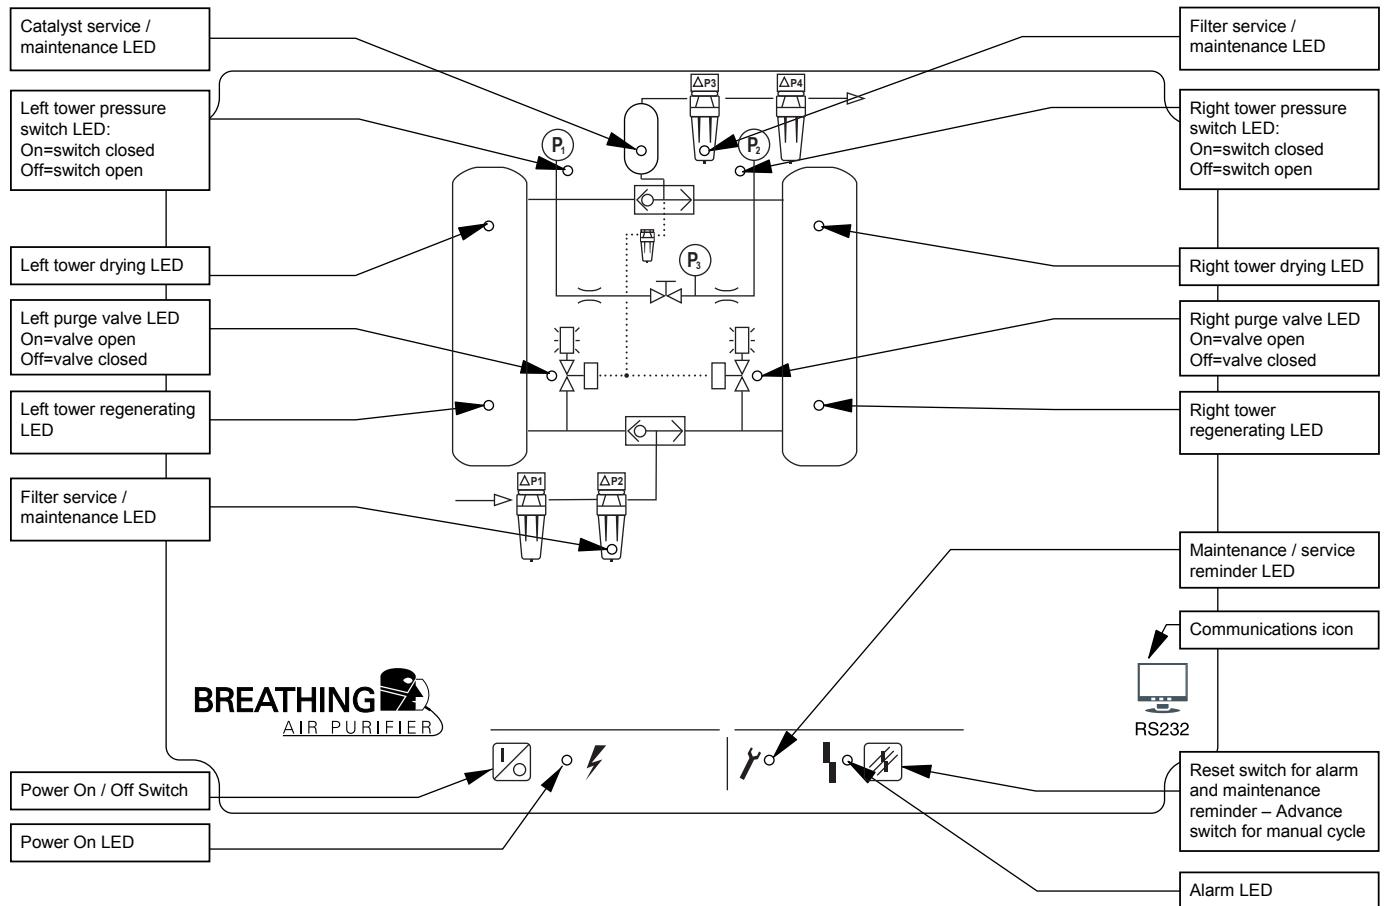

Figure 6-1
- Figure 6-1, Front Panel Overlay – Standard Controller
The front panel contains two momentary-contact push button switches. Refer to Figure 6-1, Front Panel Overlay – Standard Controller for the appropriate icon associated with each switch. Pushing on the overlay icon actuates the switch. Switching can be affected remotely by wiring external pushbuttons to the J2 terminals located on the rear of the display board. Refer to Section 6.2.4.